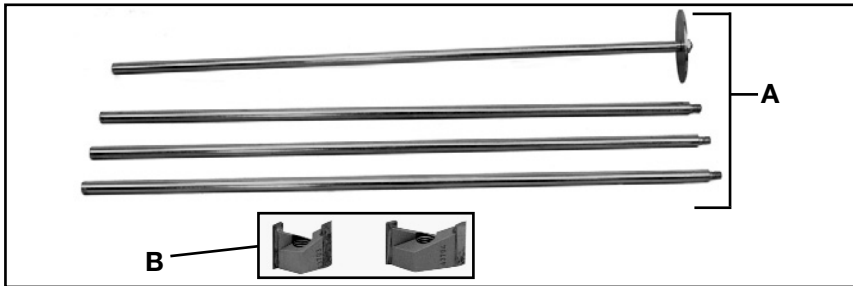

Fig. 1
With the mortiser, the four sections of the height rod (A), and two bits (B) are furnished. See Fig. 1.